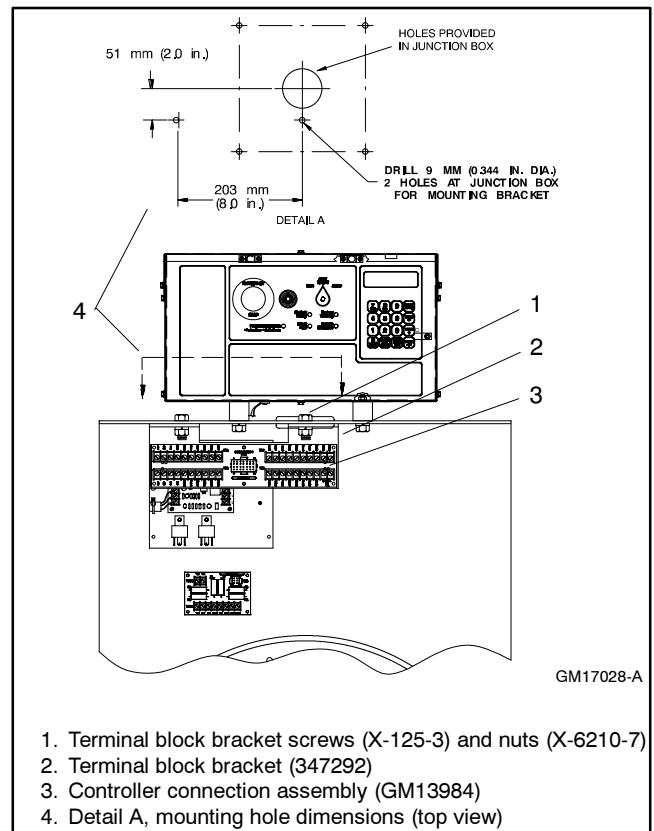

Figure 3 Terminal Block Bracket and Controller Connection Assembly Mounting (350/400 kW)
- 2.2.2 Remove the four screws attaching the controller to the junction box. See Figure 3.
- 2.2.3 Mark the drill hole locations where the terminal block bracket (347292) mounts to the junction box top panel using the dimensions given in Figure 3.
2.2.6 Place the terminal block bracket (347292) on the underside of the junction box top panel with the bracket mounting holes visible from the junction box rear and mount it using two screws (X-125-3) and nuts (X-6210-7). See Figure 3.